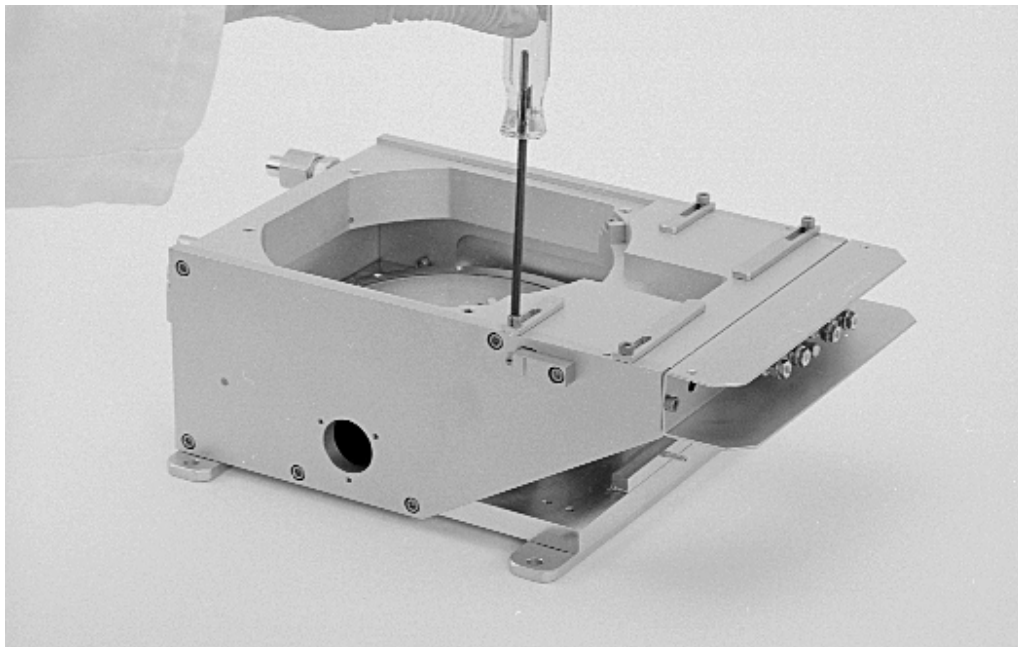

Figure 5-10. Removing the external pole extensions
Step 9: Remove the external pole extensions after making note of their positions. To do so, remove the 8-32 3/8" screws that secure them to the right- and left-hand pole pieces, as shown in Figure 5-10.